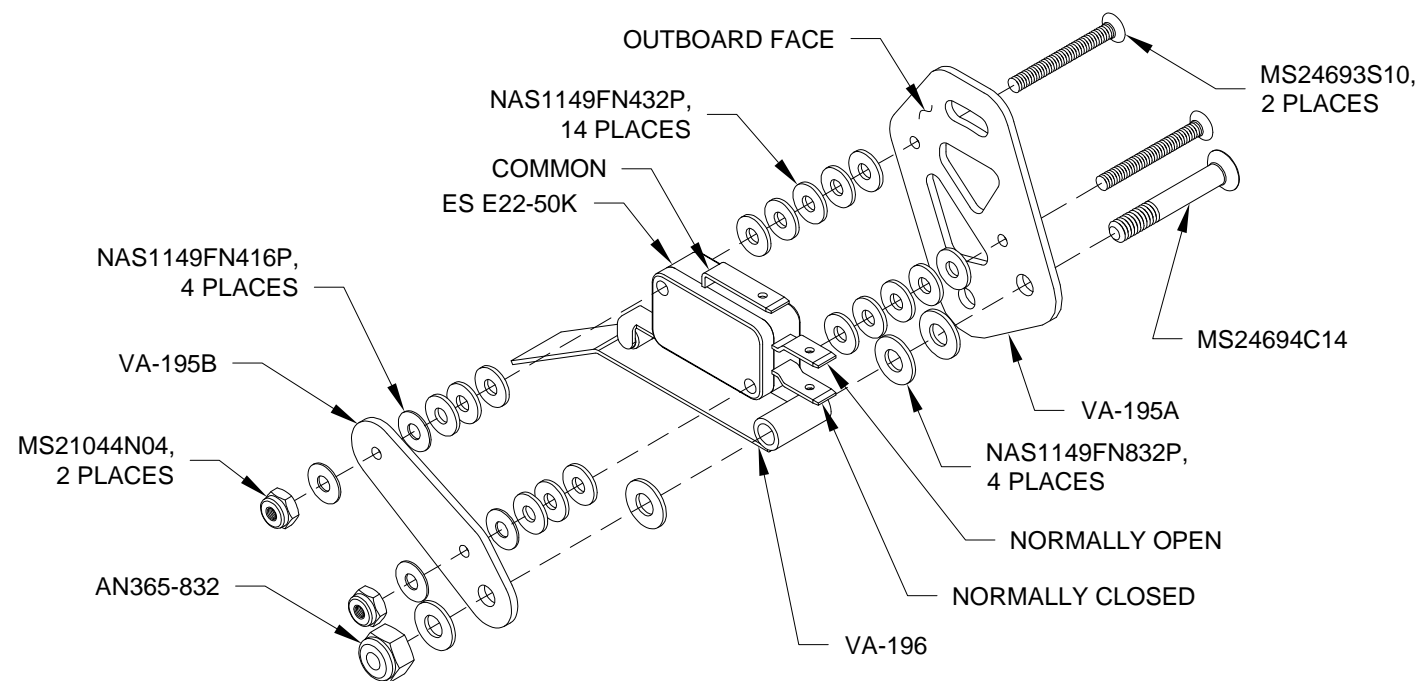

FIGURE 1: STALL WARNING SUBASSEMBLY
Step 1: Final-Drill #30 the holes in the VA-195A Mount Plate and VA-195B Keeper Plate that are used to mount the ES E22-50K Micro Switch. Machine countersink both holes of the mount plates inboard side for the flush head of a #4 screw. See Figure 1.
Step 2: Final-Drill #19 the hole in the VA-195A Mount Plate and VA-195B Keeper Plate that holds the #8 screw on which the VA-196 Stall Warning Vane pivots. Machine countersink this hole in the mount plate on the inboard side for the flush head of a #8 screw. See Figure 1.
Step 4: Assemble the Stall Warning Subassembly as shown in Figure 1. Do not over-torque the nut on the screw about which the VA-196 Stall Warning Vane pivots. Insure that the stall warning vane can rotate freely.